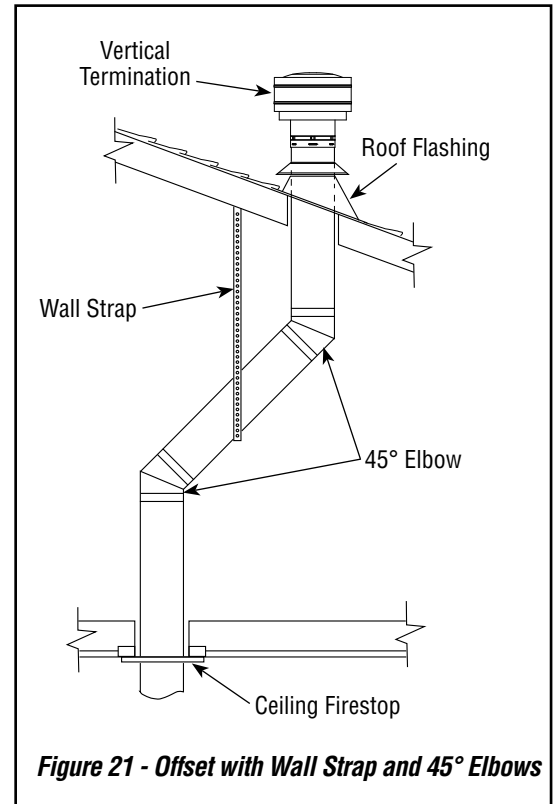

Figure 21 - Offset with Wall Strap and 45° Elbows
1. Determine route your vertical venting will take. If ceiling joists, roof rafters or other framing will obstruct venting system, consider an offset (see **Figure 21**) to avoid cutting load bearing members. **NOTE:** Pay special attention to these installation instructions for required clearances (air space) to combustibles when passing through ceilings, walls, roofs, enclosures, attic rafters, etc. Do not pack air spaces with insulation. Also note maximum vertical rise of venting system and any maximum horizontal offset limitations (see **Figures 17A**).
NOTE: If an offset is needed to avoid obstructions, you must support vent pipe every 3 feet. Use wall straps for this purpose (*see Figure 21, Page 22*). Whenever possible, use 45° elbows instead of 90° elbows. The 45° elbow offers less restriction to the flow of flue gases.
5. Place flashing over pipe section(s) extending through roof. Secure base of flashing to roof and framing with roofing nails. Be sure roofing material overlaps top edge of flashing as shown in **Figure 21, Page 22**. There must be a 1" clearance from vent pipe to combustible materials.